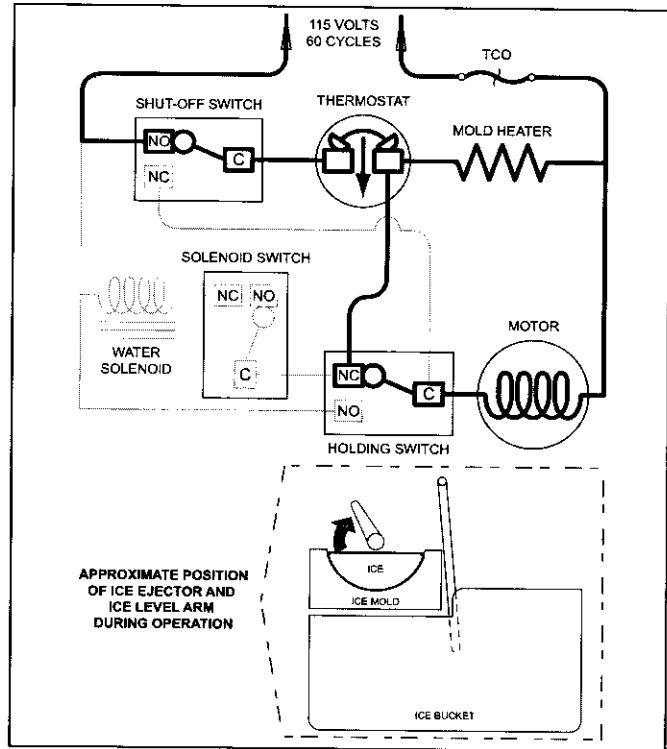

Figure 6-3. Start of First Revolution
**Start of the First Revolution (See Figure 6-3)**